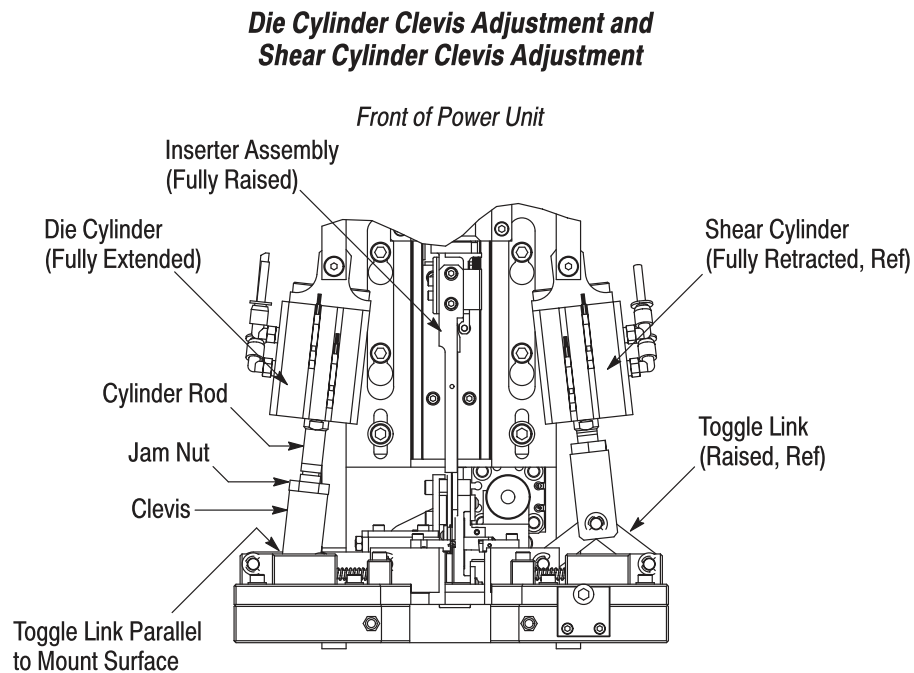

Figure 12
5.5. Die Cylinder Clevis Adjustment (See Figure 12)
5.6. Shear Cylinder Clevis Adjustment (See Figure 12)